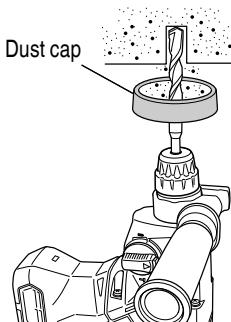
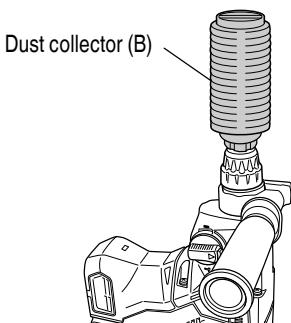

Fig. 9
Fig. 10
### 4. Installation of dust cup or dust collector (B) (Optional accessories) (Fig. 9, Fig. 10)
Use the dust cup by attaching to the drill bit as shown in Fig. 9.
When using dust collector (B), insert dust collector (B) from the tip of the bit by aligning it to the groove on the grip. (Fig. 10)